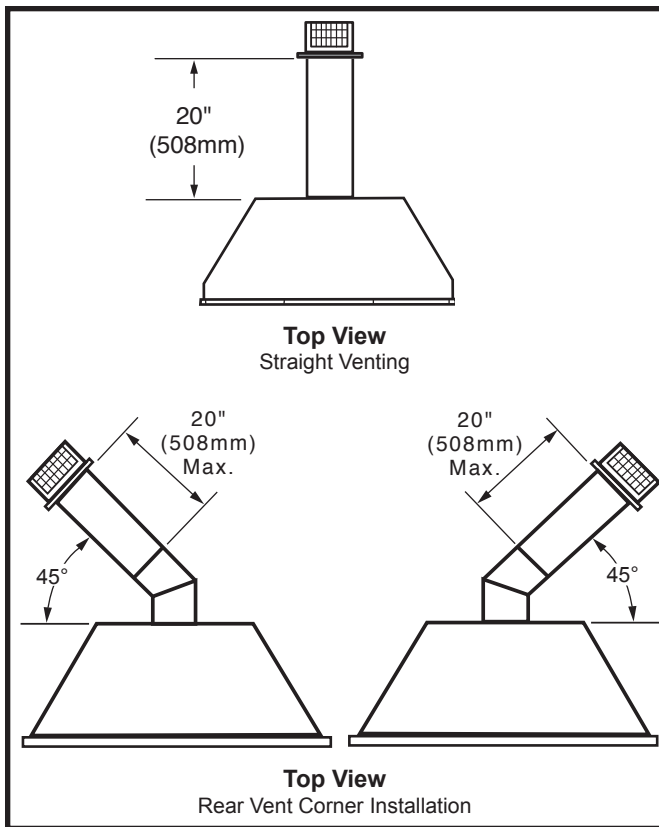

Fig. 14 Rear vent applications, one 45° elbow.
- The maximum horizontal distance between the rear of the appliance (or end of the transition elbow in a corner application) and the outside face of the rear wall is 20" (508mm). (Fig. 14)